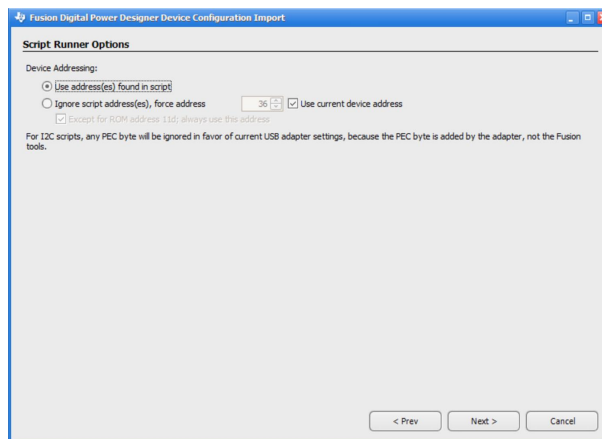

Figure 19. Script Runner Options
3. Set the address by clicking Use Address(es) found in script, and click the Next button (as shown in Figure 19).